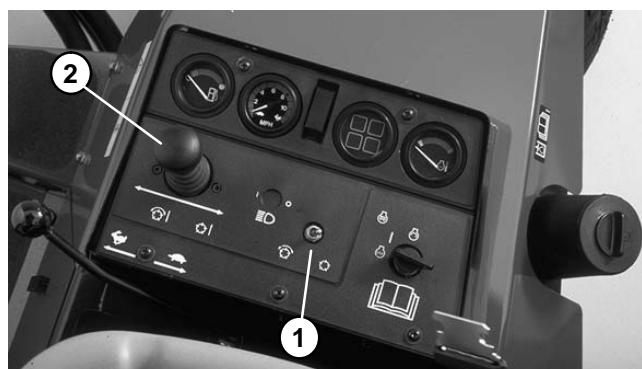

Figure 23
6. Move enable/disable switch to enable position. Move lower mow/raise lever forward to start backlapping operation on designated reels (Fig. 23).
9. To make an adjustment to the cutting units while backlapping, turn reels OFF by moving Lower Mow/Raise lever REARWARD, Move Enable/Disable switch to DISABLE and turn engine OFF (Fig. 23).